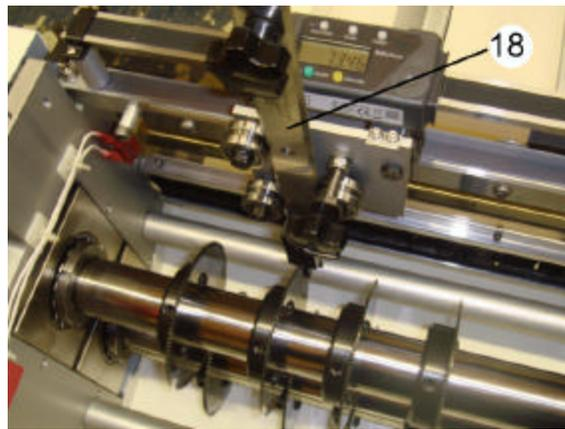

Figure 3
- * Remove the PCB from the carriage support arms and manually push the carriage into the cutter housing mechanism until pin is directly in line with the cutter positioning tool (Figure 3, pointer 18). Slide the cutter positioning tool mechanism along the beam until it is directly over the tooling pin, lower it to engage with the pin on the support arm. Switch on the Mitutoyo LCD by pressing ON/ZERO.
- * Lift the positioning tool free of the tooling pin and return the carriage to the start position manually. Release the cutter securing screw and locate the cutter in the slot of the positioning tooling device. (Figure 3).